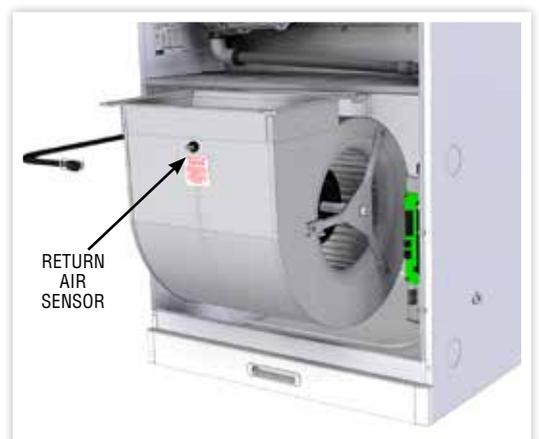

FIGURE 22. FILTER & AIR CIRCULATION FAN
16.9.3 Release the fan assembly securing screws, slide the fan assembly forwards on the runners and drop down, remove from the heater cabinet. Avoid damaging the fan blades. See Figure 22.